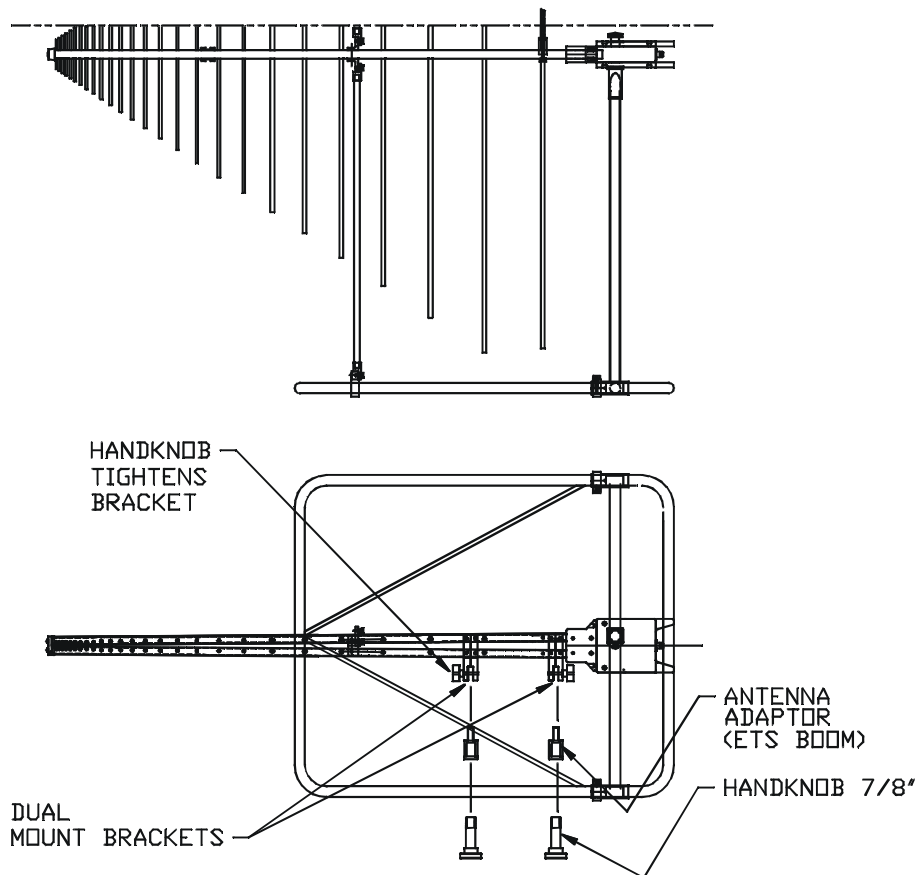

FIGURE 5 – Attachment of antenna mount adapters to Model 3140
Step 1. Install the antenna adapters onto the two mount brackets on the antenna boom (see Figure 5). These have a 7/8" threaded hole for an ETS-Lindgren mount knob. Install the threaded insert adapter into the 7/8" hole if a 1/4" thread is required on the mounting stand or mast.